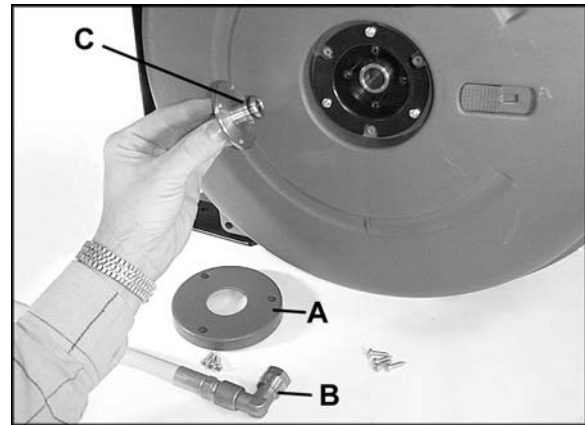

Fig. 4
2. Remove the cover (A-Fig. 4) and unscrew the fitting (B-Fig. 4) with an open-end wrench. Remove the four screws from the swivel spool (C) and pull out swivel spool.